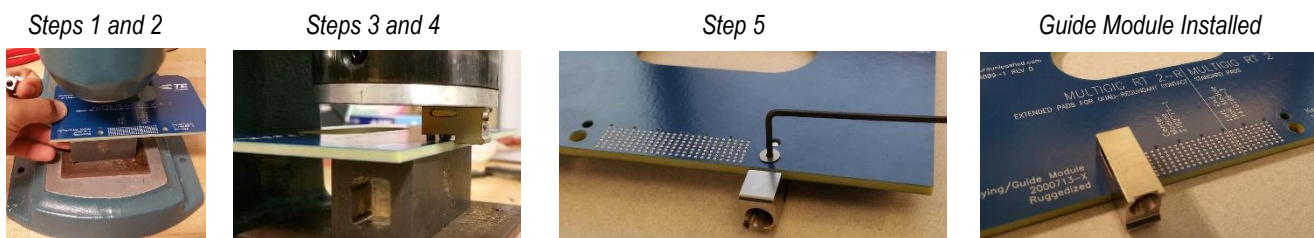

Figure 2
1.2. Guide Module (See Figure 2)